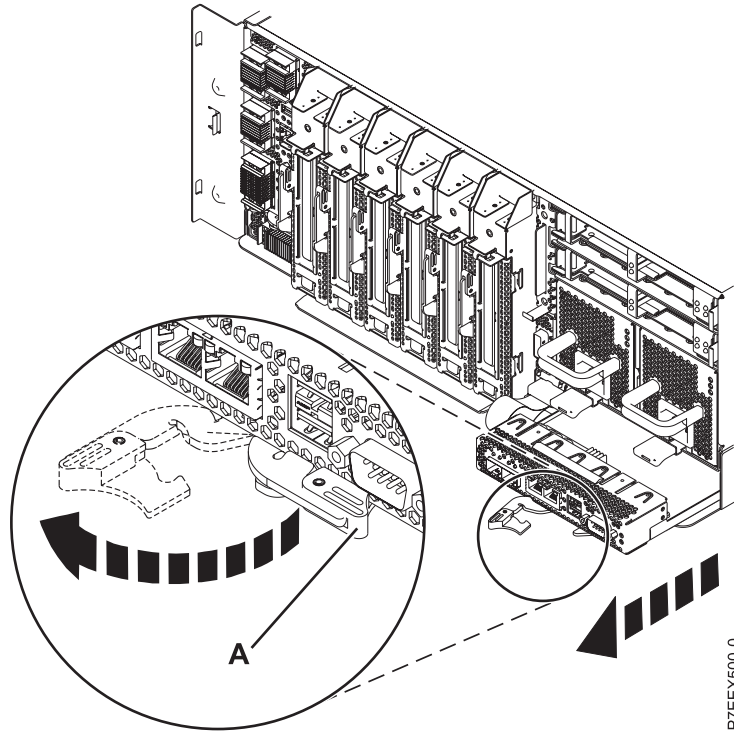

Figure 1. Removing an integrated multifunction card for the 17M/MC, 17M/MD, 79M/HC, or 79M/HD
5. Locate the integrated multifunction card that you want to remove as shown in Figure 1 on page 3.
7. Unlock the integrated multifunction card by pushing the latch (A) out as shown in the following figure.